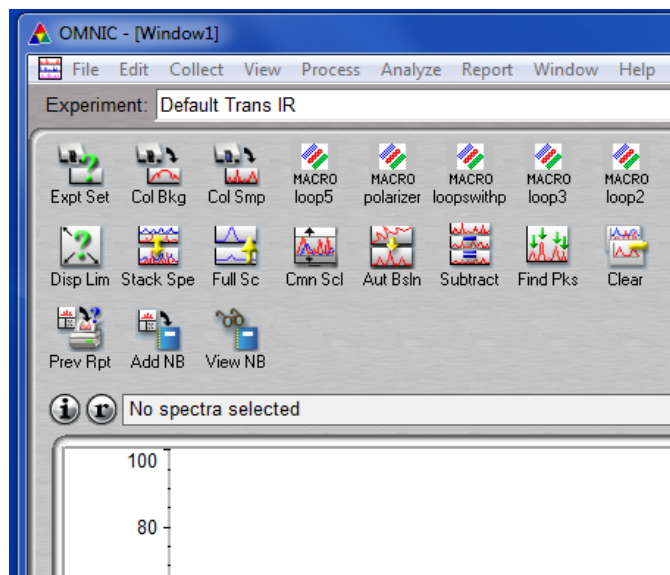

Figure 1 Omnic main screen
10. You should now see the window shown in Figure 1.
- 2) The “Reprocess” window can be accessed by selecting the “Process” tab at the top of the main window (see Figure 1) and then selecting “Reprocess” among the available option.